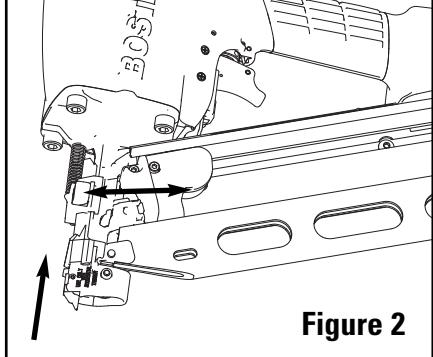

Figure 2
- Push in locking button and fully slide Metal Connector Attachment onto tool as shown in figure 2.